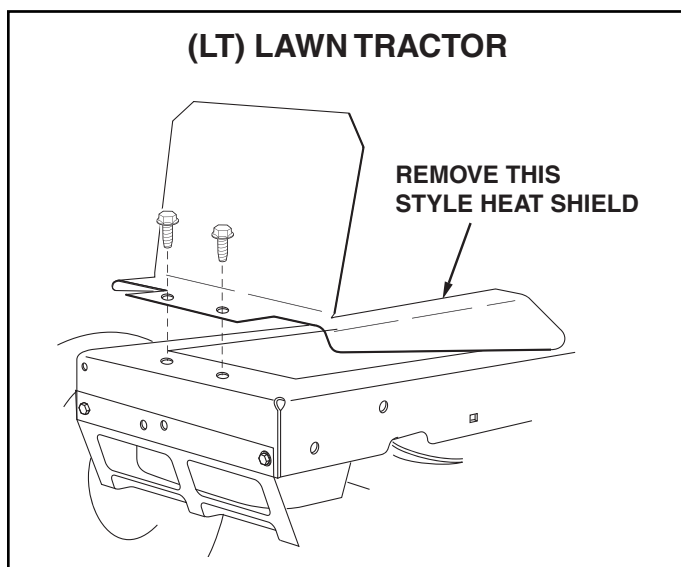

FIGURE 1
STEP 2: (SEE FIGURE 1)
- If you have an (LT) Lawn Tractor with a heat shield like the one shown, remove the heat shield.